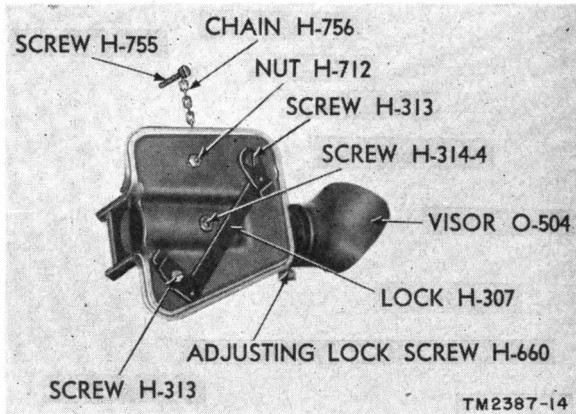

Figure 15. Camera door.
b. CAMERA DOOR (fig. 15). Open the camera door (par. 16d) and remove screw H755 which fastens the chain to the camera body. Door lock knob O-386 and lock H307 are held to the door casting by two screws H313. The viewfinder tube is held in place by hexagonal socket head set screw H314-4, and the eyepiece slides out of the tube when screws H658 which hold adjusting lock screw H660 are removed. Do not lose fiber pin H657. The thumbscrew is staked to prevent complete removal. *Do not remove the optical elements of the viewfinder.* If optical elements are defective, replace the tube assembly or eyepiece, as required. Reassemble the parts in reverse order. Be sure the keyway in the eyepiece is alined with the adjusting lock screw when the eyepiece is replaced.